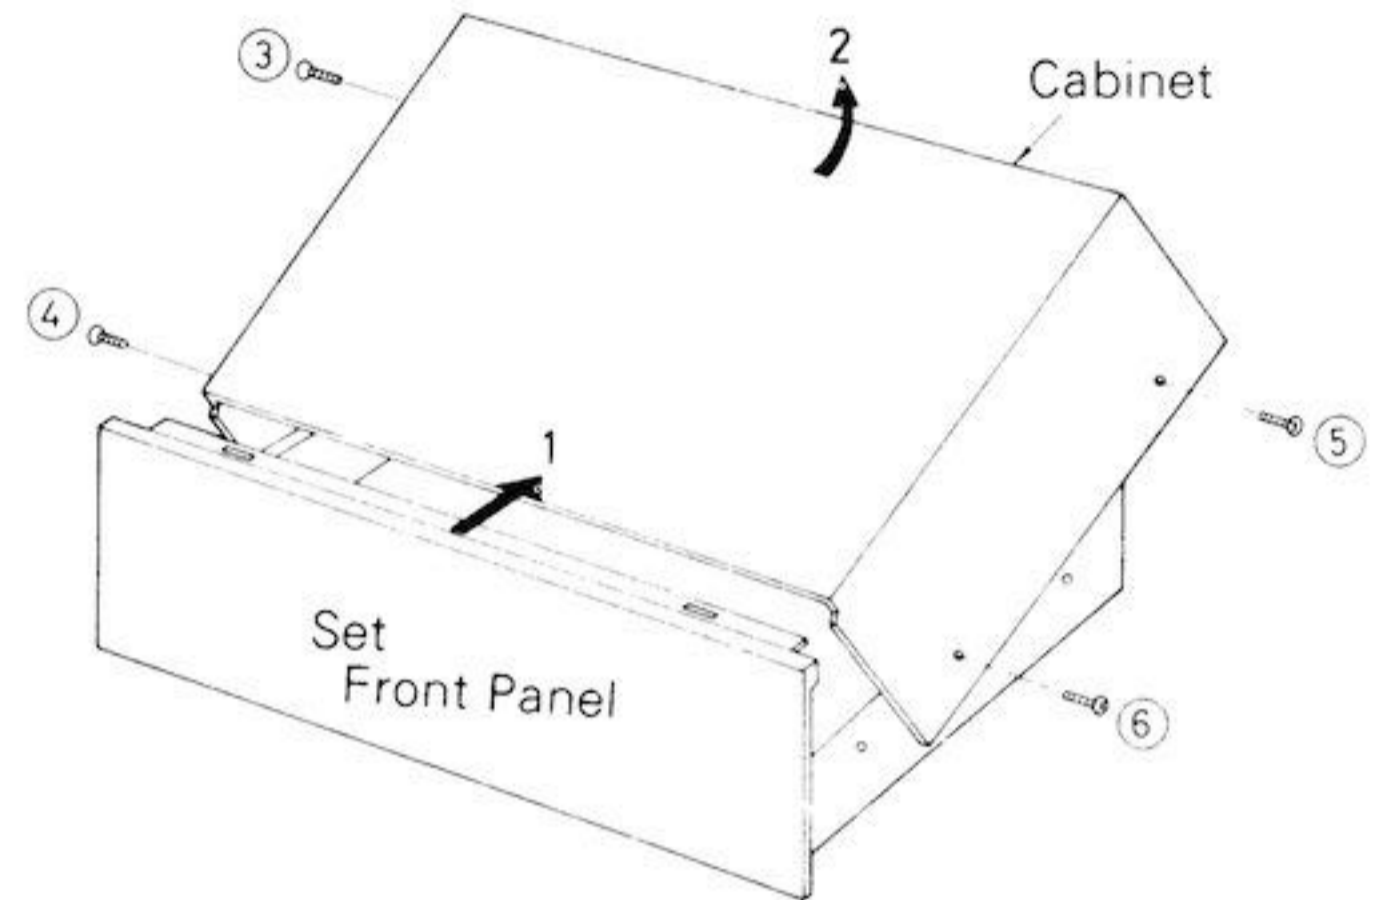

Fig. 2
2. Remove four (4) cabinet-mounting screws, nos. ③ ~ ⑥ as shown in fig. 2.
3. Remove cabinet from chassis in arrow direction 1 to 2, as shown in fig. 2.